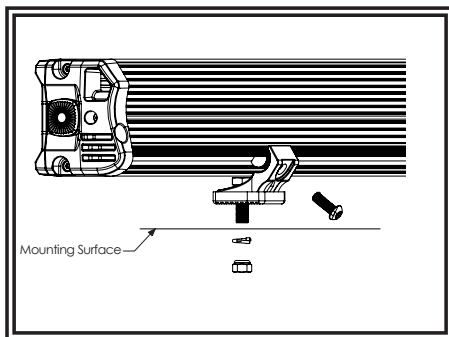

Figure 1
1. Insert a hex head bolt through each rear mount bracket and loosely secure the brackets to the rear of the lightbar with the button head bolts as shown in FIGURE 1.